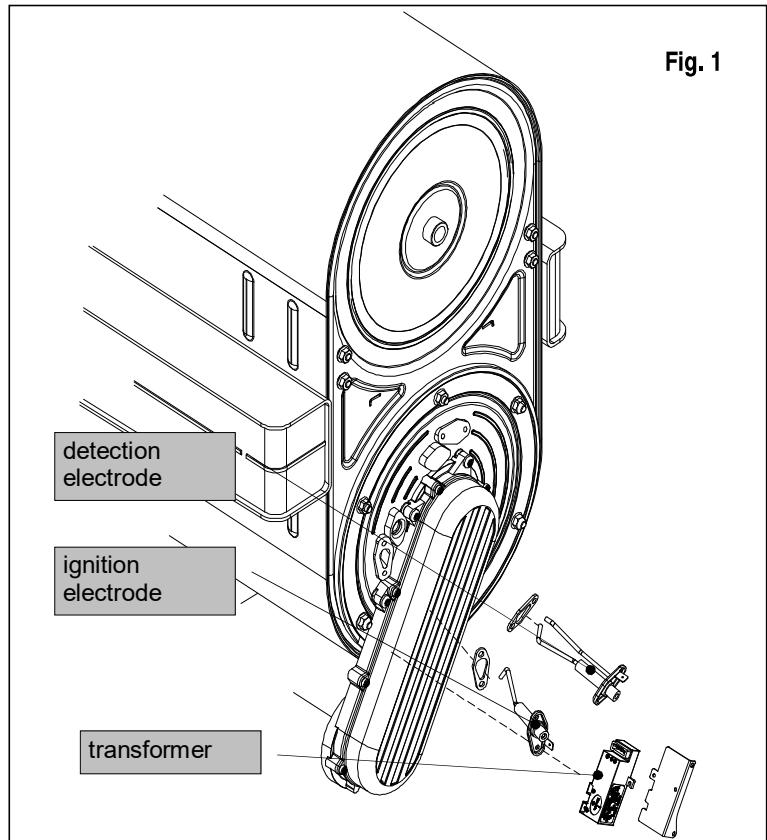

Fig. 1
6.6.5 Safety thermostat (fig. 1)